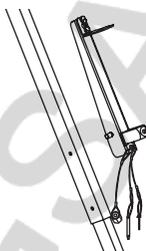

Fig.9
Tracpode which is fitted with a pulley (figure 9).
- That the Blocfor support is correctly attached to the leg of the Tracpode (figure 9 page 7).